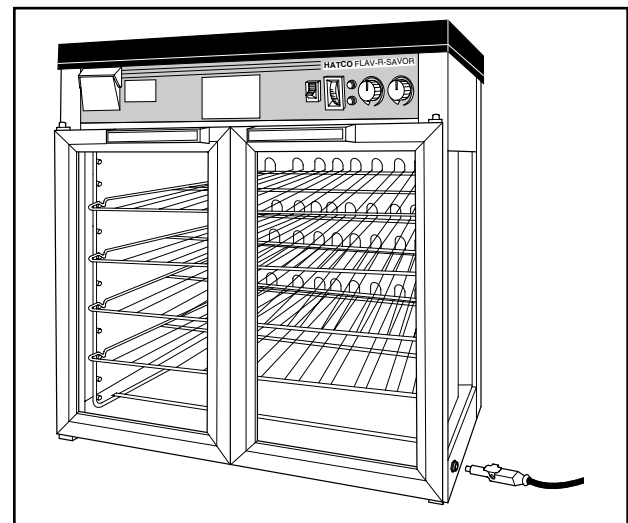

Figure 10. Reservoir Auto-Fill.
To install, attach the auto-fill quick-connect coupling supplied with the cabinet to a 1/4" (6 mm) plastic or copper tube and connect to softened or distilled water source. See Figure 10. The unit is now operational.
3. Fill the water reservoir with softened or distilled water. To fill the reservoir, lift up the fill cup cover and pull forward. See **Figure 10**. Slowly pour the water into the cup until the red light for low water indication goes off.